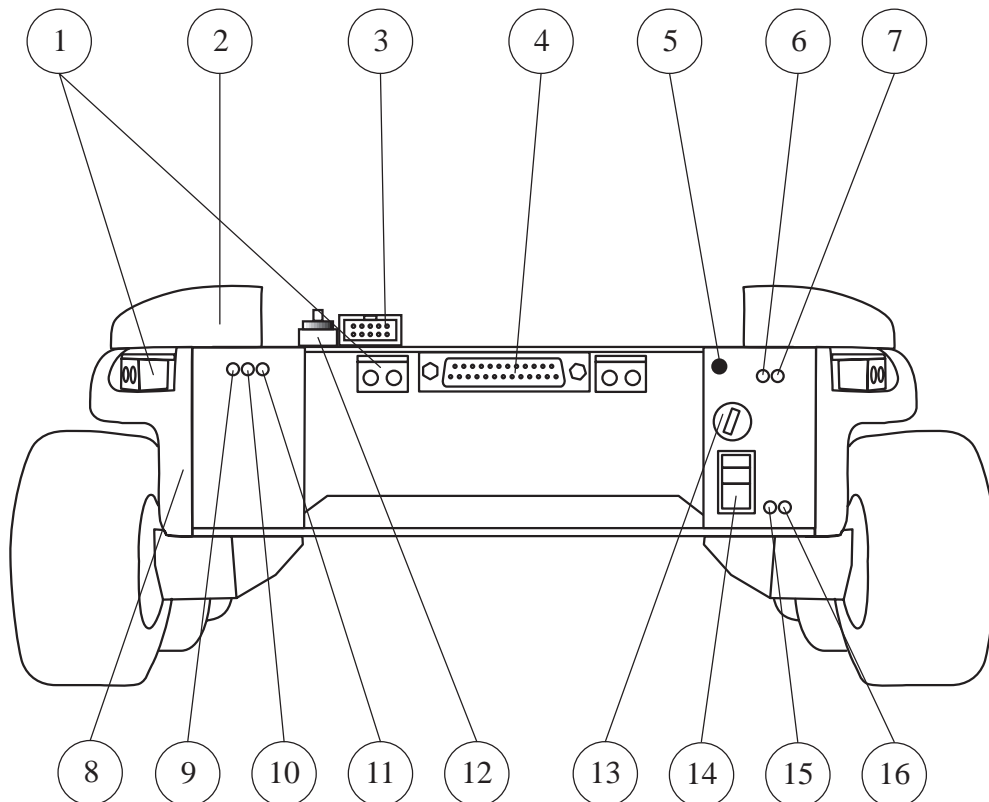
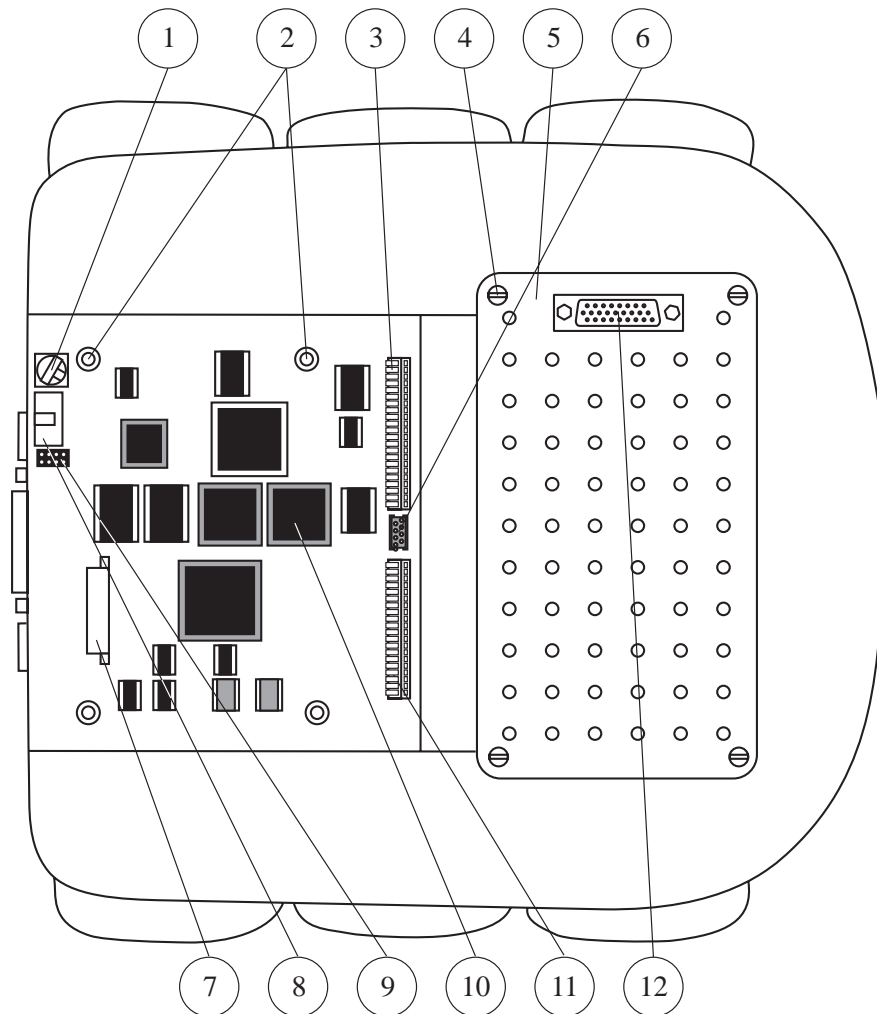
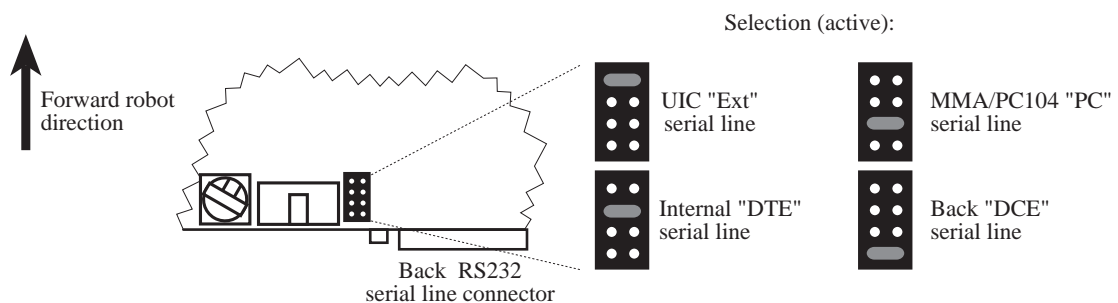

Figure 2: Back view and location of some parts.
Figure 3: Top view (cover and protection plate removed) with indication of some parts
Figure 5: Jumper position for the selection of the active RS232 serial connector.
The software installed on your robot includes an important library of software modules for the real time control of the Koala robot. Part of these modules (building the BIOS) ensure the basic functionalities of the Koala robot, like motor control, sensors scanning etc. Another part of these modules ensure the interface with the user through the serial line. Depending on your use of the robot (remote control, downloading, test, demo etc.) you can select a specific module by setting the correspondent running mode. The “running mode selector” (point 12 of figure 2 and point 1 of figure 3) allows the selection of the most important running modes in several configurations. You have the choice between the following configurations:
- the external RS232 serial line connector (item 4 of figure 2) called “DCE”
- the PC104 serial line included in the MMA connector (item 7 of figure 3) called “PC”
- the RS232 serial line included in the UIC connector (item 12 of figure 3) called “Ext”
To avoid conflicts, only one of these four connectors can be active and be connected to the CPU. The choice of the connection is made using the selection jumper showed in figure 3 under the point 9, following the rule illustrated in figure 5.
WARNING: only one jumper has to be placed in one of the configurations presented in figure 5. More than one jumper can cause conflicts and damages.
Two LEDs (items 6 and 7 of figure 2) show the activity of the transmit and receive RS232 serial line of the Koala CPU. This activity will correspond to the activity of the connector selected as indicated in figure 5. If the activity that you observe on these lines do not correspond to the activity of your host computer (when you send data, the red receive LED do not show any activity, for instance) then the problem could be at the level of your computer, the cable or the jumper illustrated in figure 5.
The transmit LED (green, items 7 of figure 2) indicates the activity of the channel transporting data from the Koala robot to the host PC. The receive LED (red, items 6 of figure 2) indicates the activity of the channel transporting data from the host PC to the Koala robot.